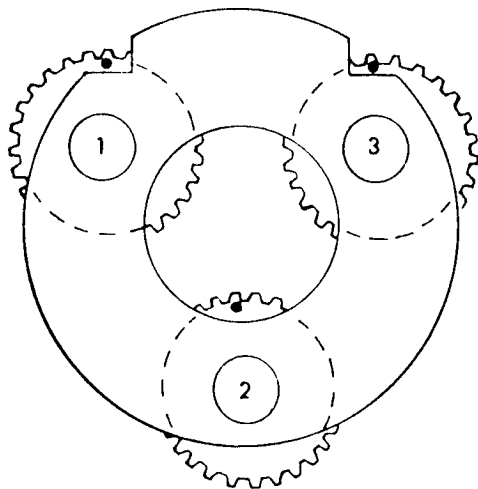

Figure 9-6. Planetary Gear Timing Sequence
- o. Rotate gear 1 (figure 9-6) until timing punch mark is in 12 o'clock position. Repeat with gears 2 and 3.